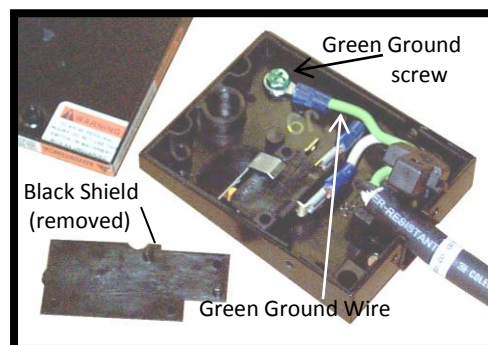

Figure 29: Ground Wire Connection
8. Remove the green ground screw (Figure 29) to free the green ground wire. **Note:** Don't lose the lockwasher under the wire terminal.
6. Insert the ground screw through the green ground wire terminal, put on the lockwasher, and then screw the ground screw into place (Figure 29).